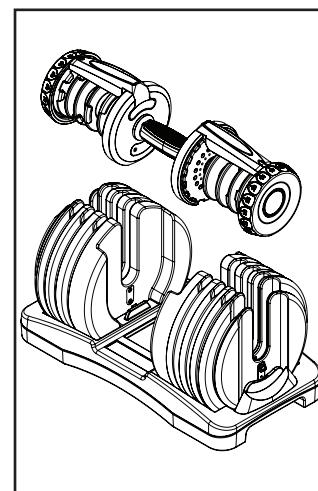

Figure 2
5. With both adjustment knobs set to 10, pull the handle straight up from the dumbbell. This will remove only the handle from the base, and let all of the weight plates stay in the base (Fig. 2). The handle without plates gives the initial weight of 10 lbs (4.5 kg).